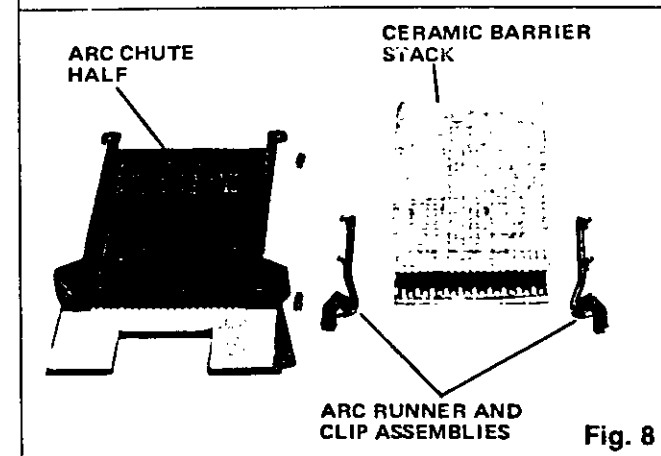

Fig. 8
2. Remove the hardware which attaches the two arc chute halves at four locations marked (1) in the figure.
3. Loosen, but do not remove, the four arc runner attachment screws marked (2).
4. Carefully lift off one of the arc chute halves to expose the ceramic barrier stack and the arc runner and clip assemblies. Refer to Figure 8.